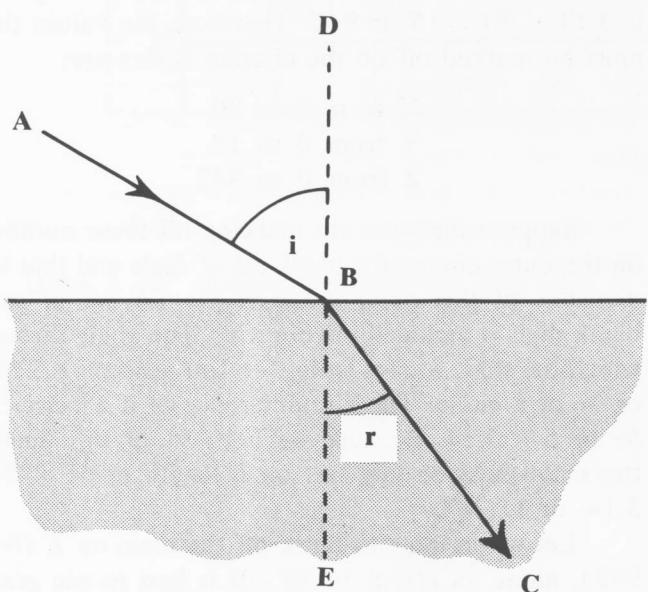

Fig. 32
Fig. 32 shows a light ray moving in the direction AB. It strikes a transparent surface, such as glass or water (indicated by the darker area in Fig. 32). The ray bends and takes a new direction (BC) inside the new material.
In this formula,  $i$  stands for the *angle of incidence* as the light ray strikes a transparent material from air (Fig. 32),  $r$  stands for the *angle of refraction* and  $n$  represents the *index of refraction*, a number which is different for different materials. Some typical values of the *index of refraction* are indicated in Table I.